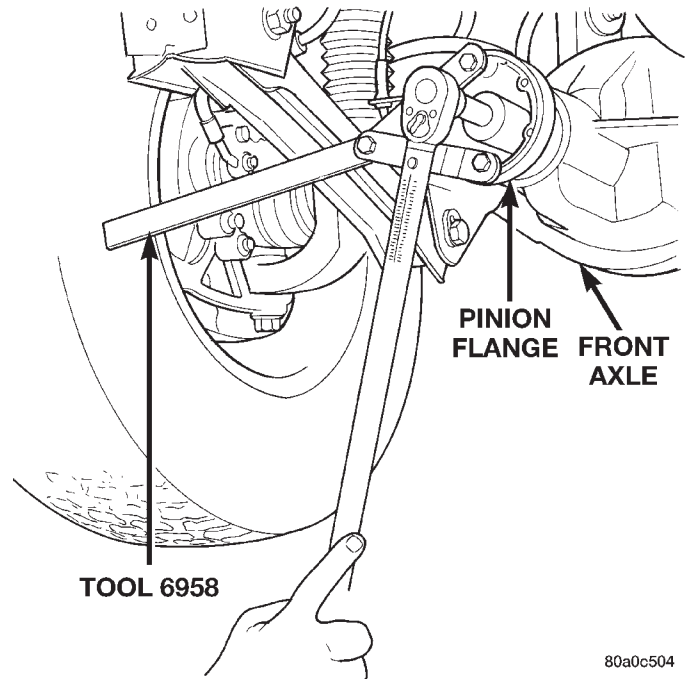

Fig. 49 Tightening Pinion Nut
(10) Using Holder 6958 and torque wrench (set at 352 N·m (260 ft. lbs.)), crush collapsible spacer until bearing end play is taken up (Fig. 49).